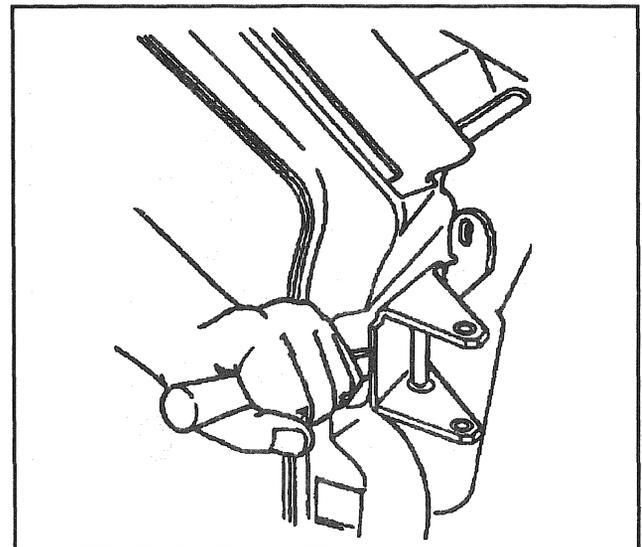

Figure 17—Chiseling Welded-On Hinge
- E. Drive a chisel between the hinge and door pillar (Figure 17).